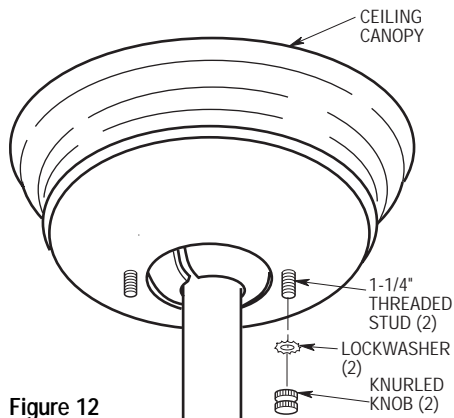

Figure 12
- 5. Lift the ceiling canopy up to the threaded studs and turn until the studs protrude through the holes in the ceiling canopy (Figure 12).
- 6. Secure the ceiling canopy in place by sliding lockwashers (supplied) over the threaded studs and installing the two knurled knobs (supplied) (Figure 12). Tighten the knurled knobs securely until the ceiling canopy fits snugly against the ceiling.